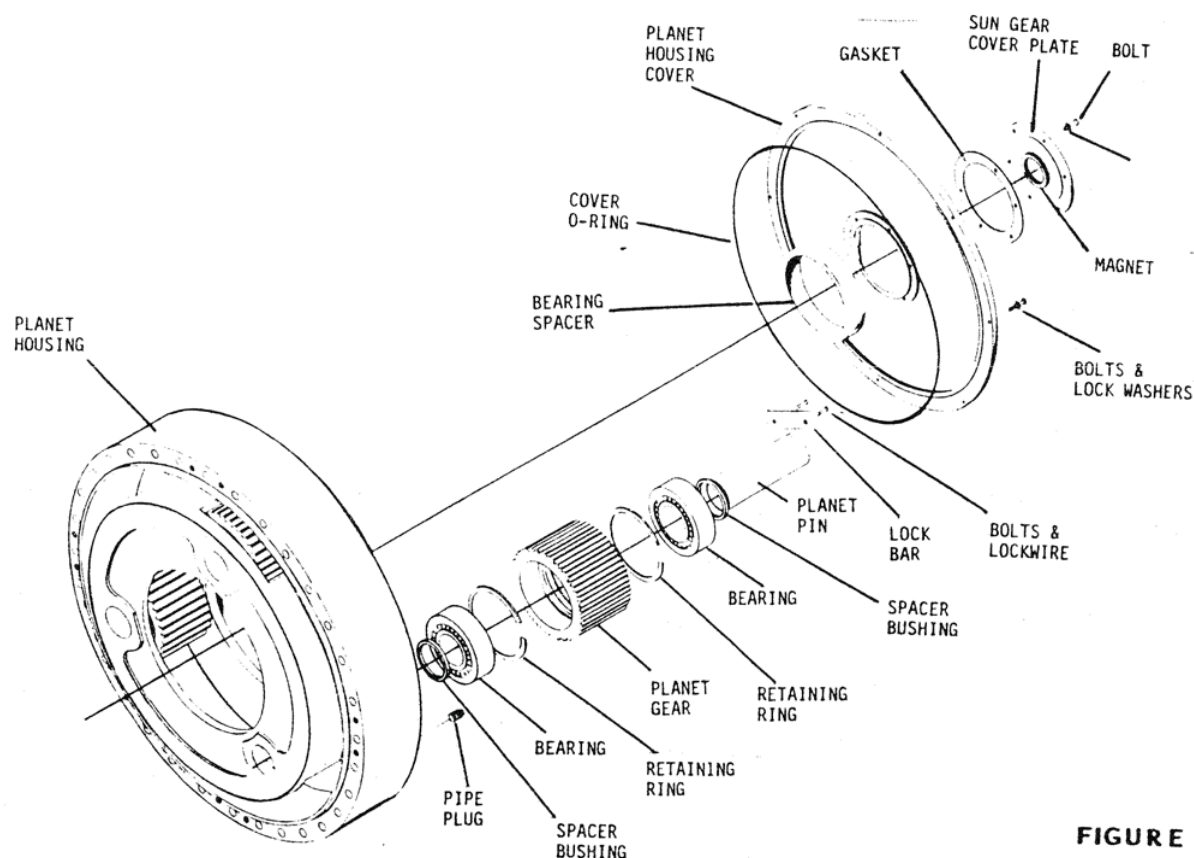

FIGURE 9
B. Pre-assembly and Preparation - Figure 9.